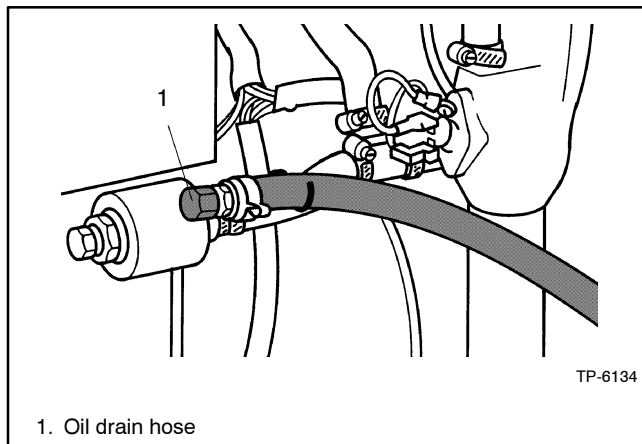

Figure 3-4 Oil Drain Hose
- d. Remove the oil drain hose from its retaining clip. See Figure 3-4. Remove the cap from the oil drain hose and lower the hose into an oil collection container.